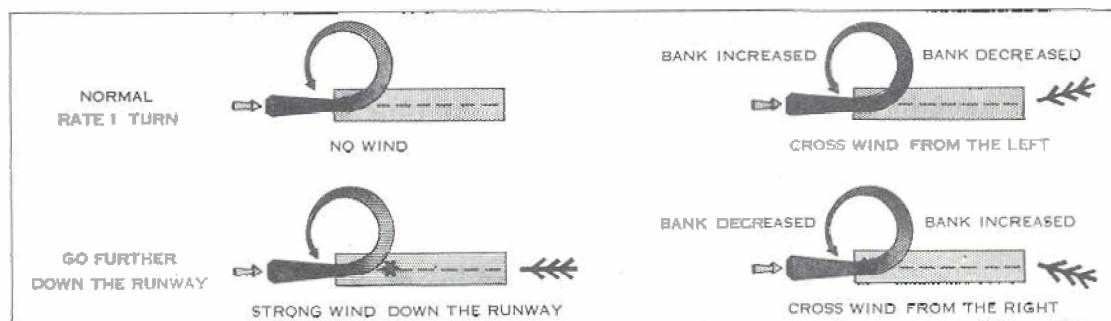

Figure 2: Correcting for Wind on a Forced Landing
(2) On reaching "High Key", you must send the tower a position report and at the same time start a 360 degree, Rate 1 gliding turn which will bring you back over the threshold. The rate of turn must be adjusted on the way down to make allowance for wind: depending on the wind strength and direction, you will have to vary the amount of bank used in the turn to avoid drifting too far away, or too close to the runway. The correction for wind during the pattern is shown in Figure 2.